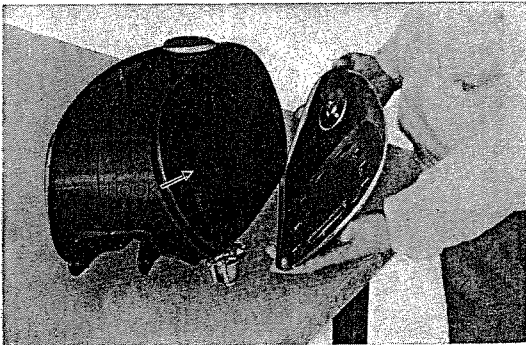

Fig. 4.33 Installing side cover
2. Install the side cover. (Refer to Fig. 4.33)